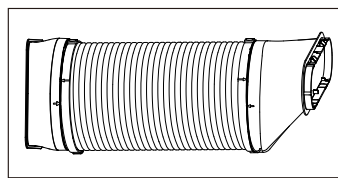

Fig. 3
4. After assemble, like below fig. (Fig. 3)